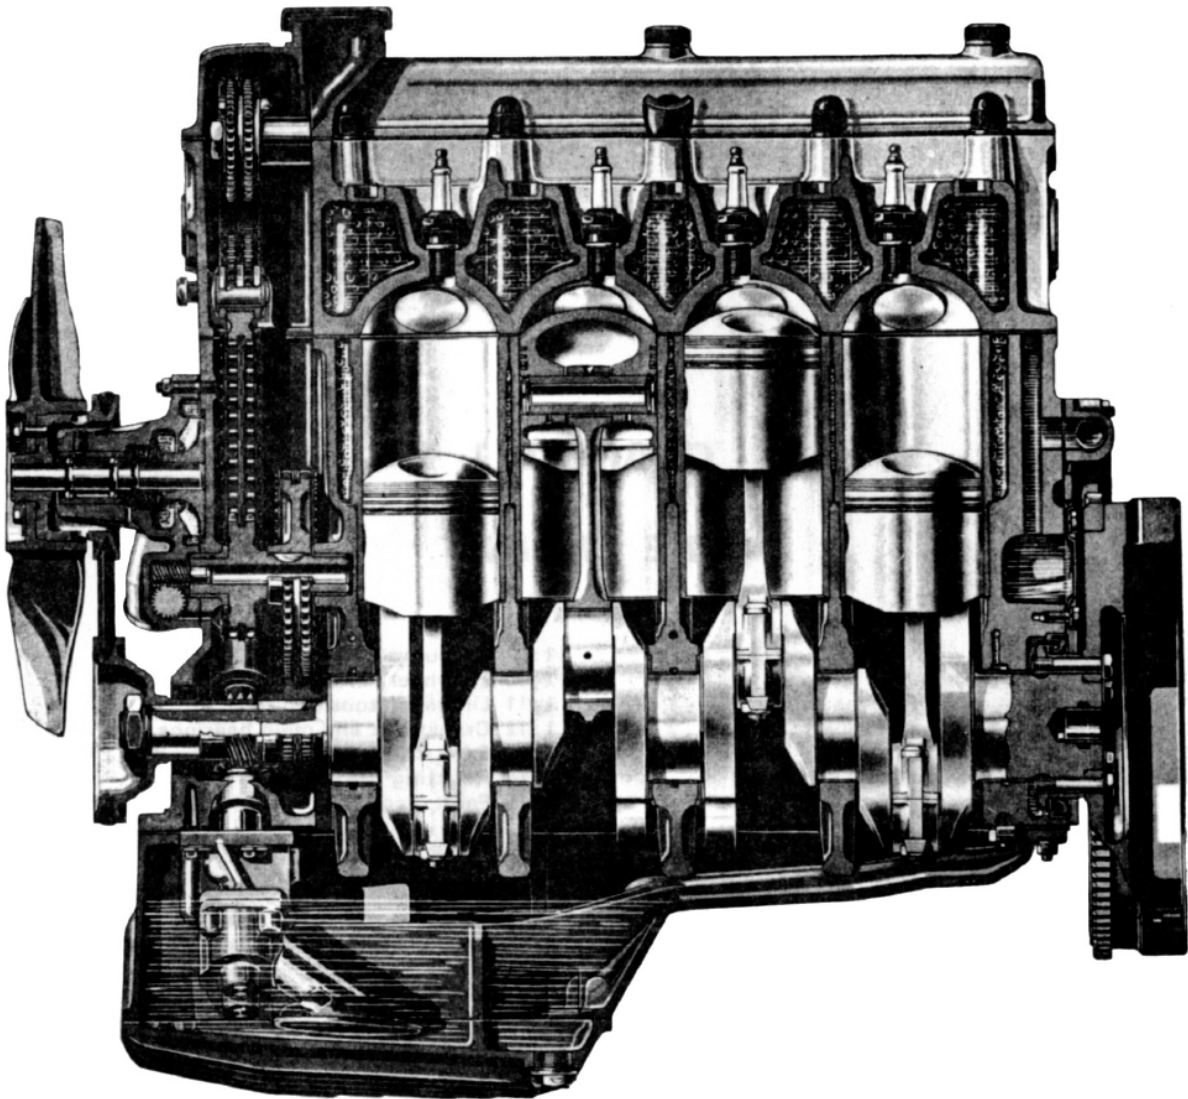

FIG 1:1 Longitudinal section of the engine
A light alloy cylinder block is used, cast integrally with the crankcase and carrying cast iron wet liners for the cylinder bores. **FIG 1:1** shows a cutaway view of the engine and **FIGS 1:2** and **1:3** the engine internal components. The detachable cylinder head is of light alloy with machined hemispherical combustion chambers and the valve seat inserts and valve guides are of cast iron and shrunk fitted into the head.
- 2 Refer to **FIG 1:4** and detach the following from the underside of the car. The propeller shaft at the intermediate joint flange 1, after marking the front and rear parts for correct reassembly. The propeller shaft central bearing support 2 and the cross-plate 3. The speedometer cable 4 and the exhaust pipe bracket 5.
- 3 Refer to **FIG 1:5** and detach the clutch cover 6, the gear selector lever 7, the reversing light wires 8, the clutch operating lever 9, the manifold joint 10 and the gear engagement lever 11. Remove the tachometer cable if fitted, from the front of the engine.